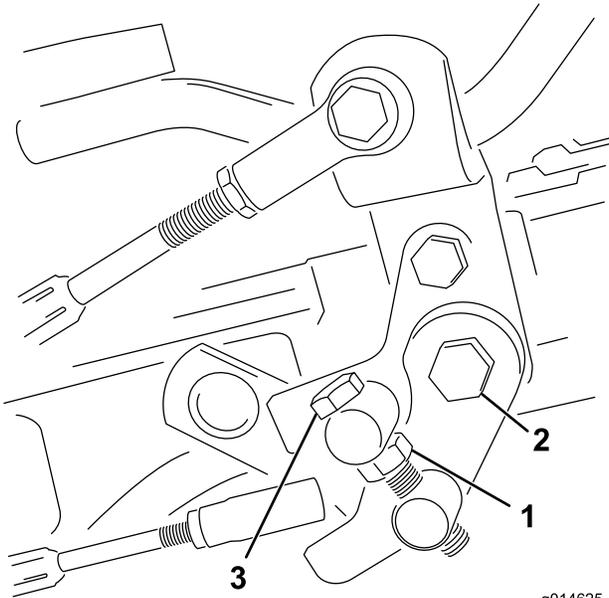

Figure 53
1. Loosen the jam nut on the trunnion bolt (Figure 53).
4. Tighten the jam nut on the trunnion bolt and the nut on the pedal pivot to lock the adjustment (Figure 53). Check the adjustment and adjust as required.